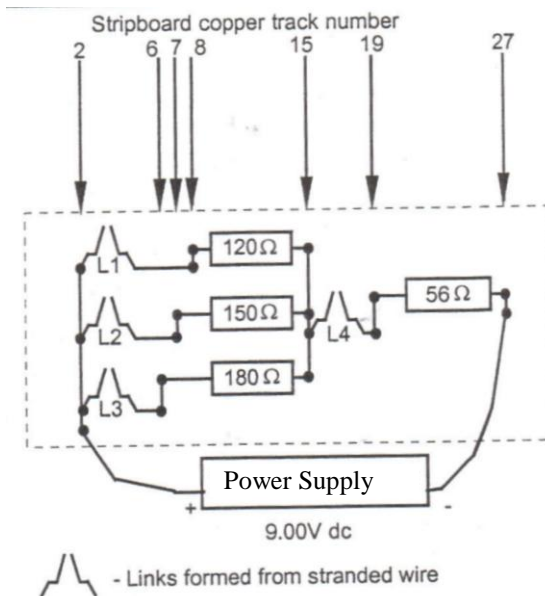

Figure 2.6: Circuit diagram.
1. Construct the circuit shown in Figure 2.6 on a stripboard. NB: The view represents the top view of the stripboard (i.e. the side without the copper tracks).